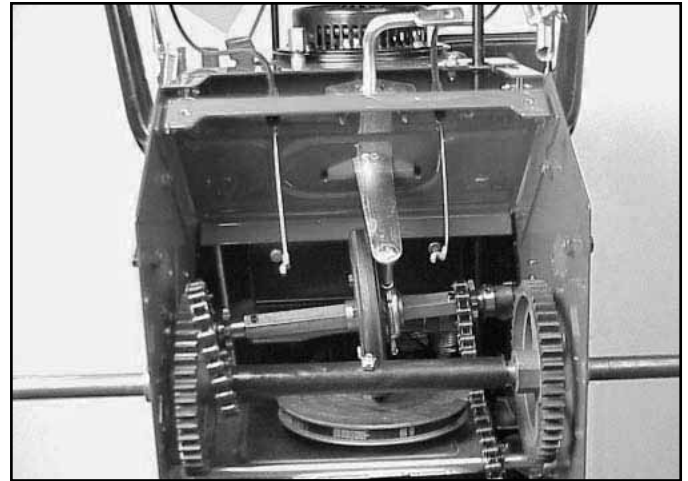

Fig 124
9. Remove both roller chains from 32-tooth gears and lift wheel clutch assembly from traction unit (Fig. 124).